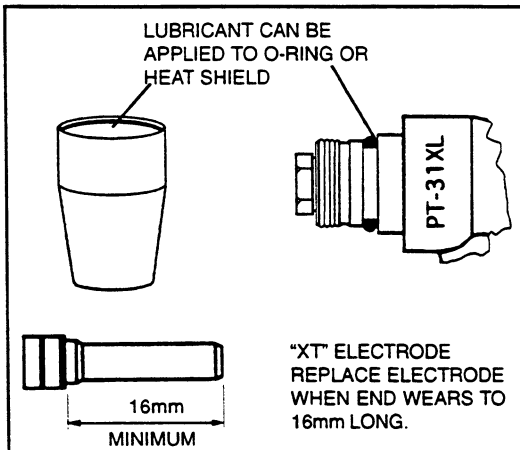

Fig. 5.1 - O-ring and Electrode Maintenance
4. Apply a small amount of lubricant (558000443) to the heat shield as shown in figure 5.1 or to the O-ring. Check O-ring (558000514) for damage whenever the shield is removed. Replace if necessary.